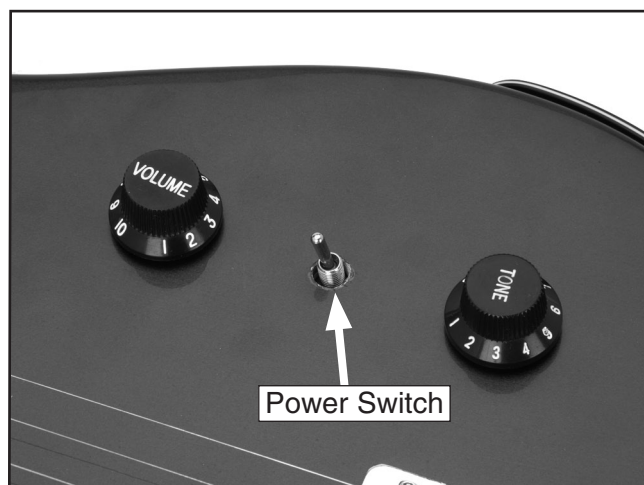

Figure 16. Installing power switch.
7. Insert the power switch, which is mounted to the circuit board, through the guitar body as shown in **Figure 16**.